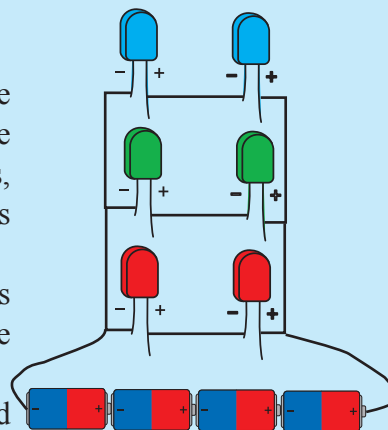

Figure 10.18 ▲
- Draw a diagram for the circuit shown in Figure 10.18. Indicate where the switches should be connected to light blue LEDs, only red LEDs, only green LEDs, and both blue and green LEDs at the same time.